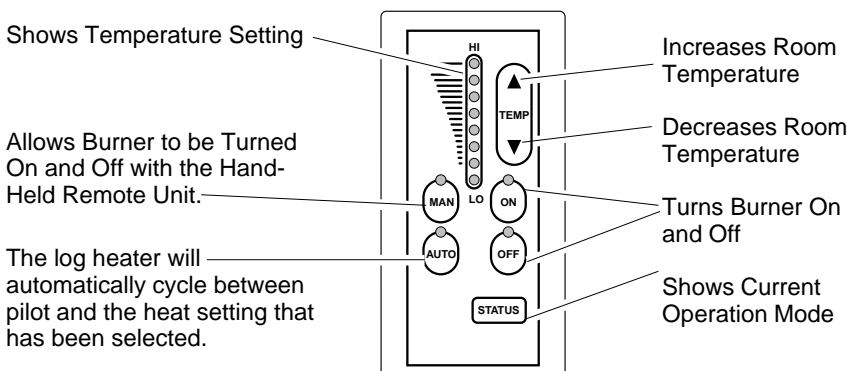

Figure 22 - Thermostat Hand-Held Remote Control Unit Selections (GHRCT only)
- 2b. Select the MAN (manual) or AUTO button on the hand-held remote control unit (see Figure 22, page 16)